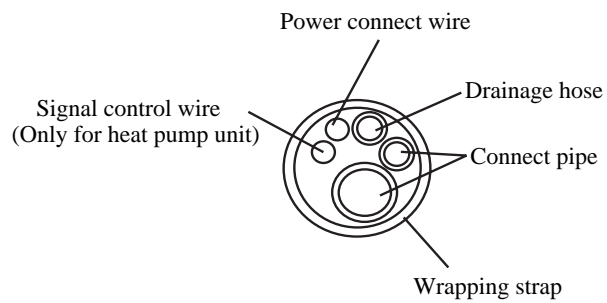

Fig. 11-8
(2) After wrapping pipe and wire, pull them though the piping hole (As shown in fig.11-8).
(3) Hang the mounting slots that behind indoor unit onto the upper tabs of the rear panel and check if it is firm enough
(4) Ensure that the install height of indoor unit is 2.3 m or more from floor.